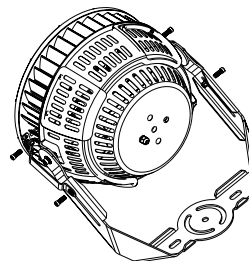

Fig. 2
2. Rotate fixture to correct angle and lock with provided M10 screws (Fig 2).